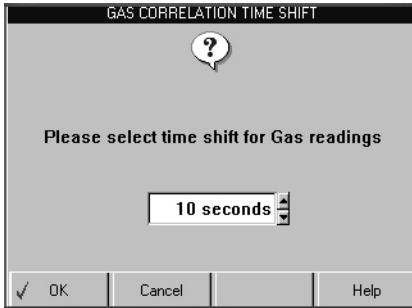

Figure 9.5: Gas Correlation Time Shift Screen
- b On the scan tool, press the **More** function key, use the **Direction** key to select **Gas Options**, and press the **ENTER** key. This displays the Gas Correlation Time Shift screen (Figure 9.5 on page 52).